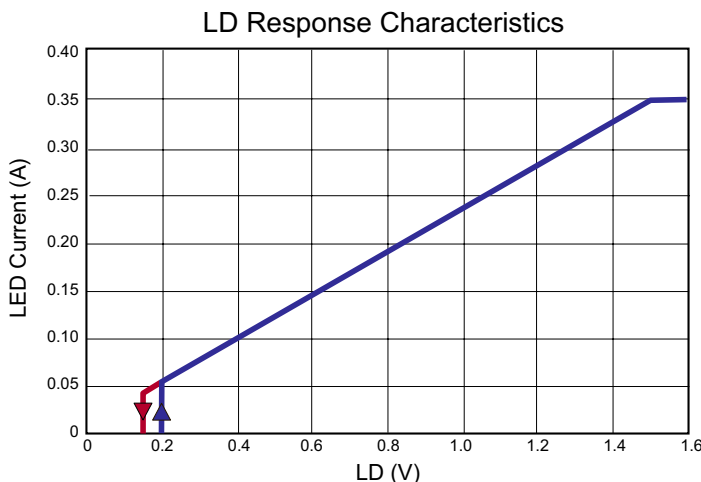

Fig.3. Typical linear dimming response of an HV9861A LED driver
When the voltage at LD falls below $1.5V$, the internal $270mV$ reference to the constant-current feedback becomes over-ridden by $V_{LD} \cdot 0.18$. As long as the current in the inductor remains continuous, the LED current is given by the equation (3) above. However, when V_{LD} falls below $150mV$, the GATE output becomes disabled. The GATE signal recovers, when V_{LD} exceeds $200mV$. This is required in some applications to be able to shut the LED lamp off with the same signal input that controls the brightness. The typical linear dimming response is shown in Fig.3.